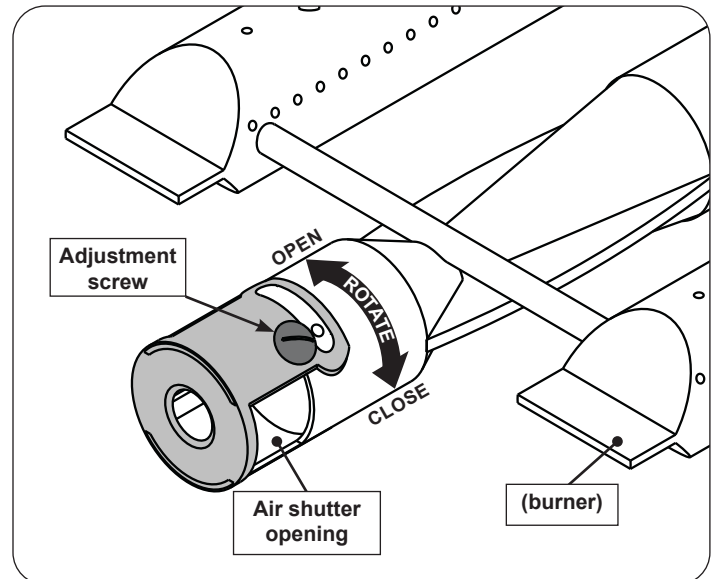

Fig. 48-2 Main burner air shutter adjustment detail
1. To adjust the air shutter, loosen the adjustment screw with a flathead screwdriver. Then rotate the shutter to open or close it. See Fig. 48-2 for details.